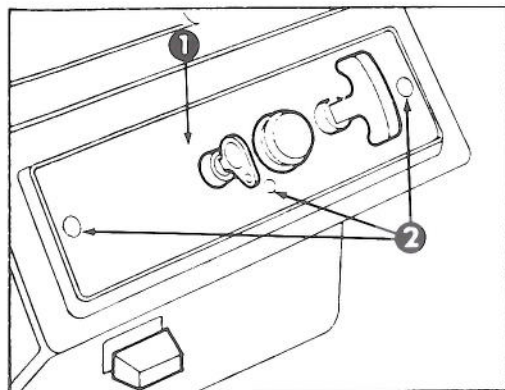

Figure 15
REPLACING SPARK PLUG – (Fig. 15,16&17)
1. REMOVE CONTROL PANEL (Fig. 15) – Remove (3) capscrews securing control panel to housing. Remove ignition key and lift off panel, allowing it to hang on recoil rope.